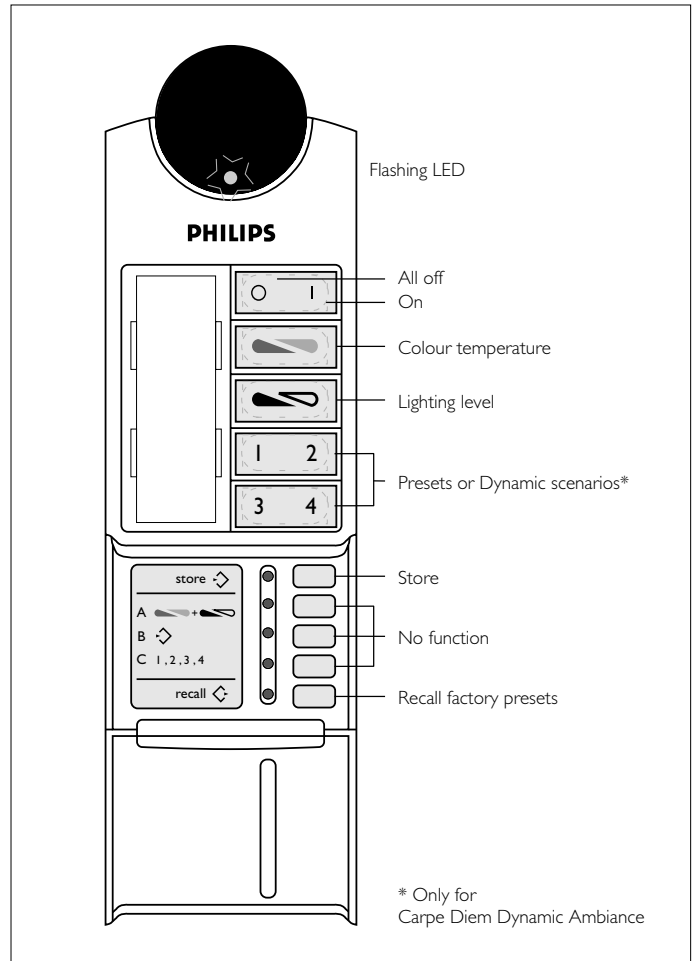

Figure 2 Key functions
The first two buttons (see Figure 2) are for switching the lighting ON (I) and OFF (O). The level and colour temperature of the lights depends on the last selected preset (default: preset 1).
The CARPE DIEM lighting system has four dynamic scenarios in its memory (see figure 2). The standard scenarios are: Natural rhythm (1), Human rhythm (2), Pendulum rhythm (3) and Wave rhythm (4). When one of these scenarios is selected by pressing the corresponding button on the transmitter, the lighting will be altered according the programmed rhythm from that moment onwards. If scenario 2 is selected, the lighting is switched off (O) and than on (I) again, the rhythm will be as set in scenario 2. You can also switch on your lighting with one of the scenario buttons.